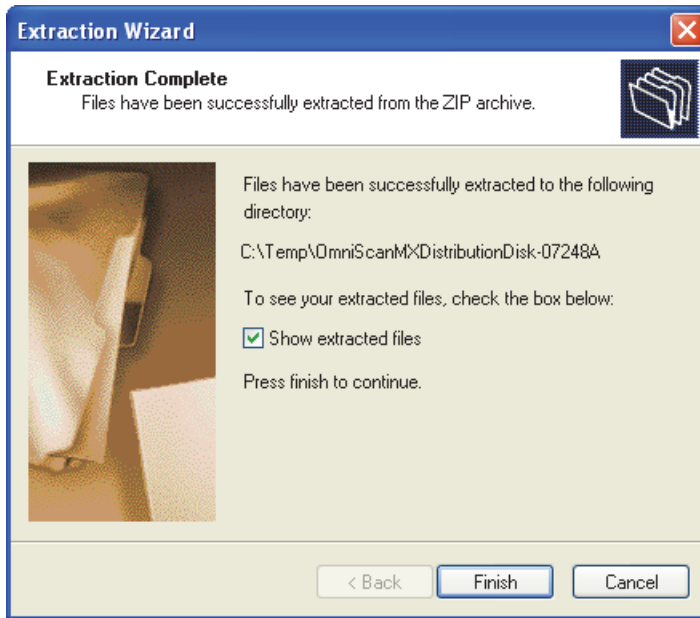

Figure 4-10 The Extraction Complete screen of the Extraction Wizard
13. Wait until the **Extraction Complete** page of the **Extraction Wizard** dialog box appears (see Figure 4-10 on page 72), and then click **Finish**.